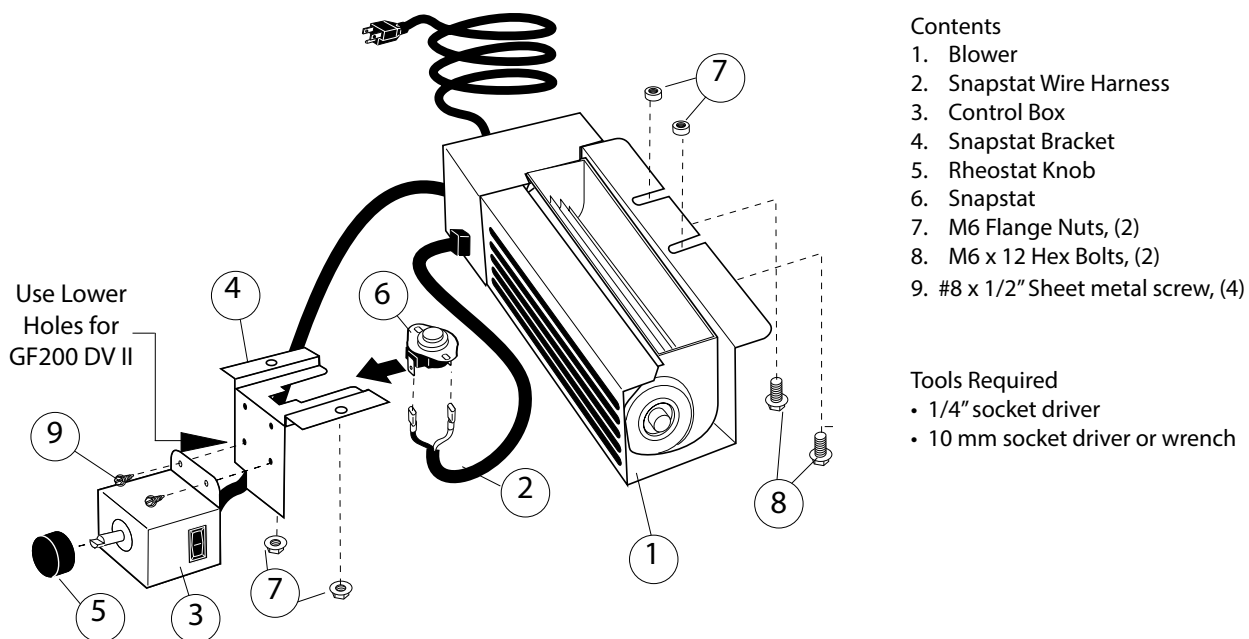

Figure 51. Blower Kit Components
1. Unpack and check the contents of the blower kit. There is a steel bracket that is not used with the GF 200 stove. Contact your dealer if any damage is evident or parts are missing. See fig. 51.
2. Attach the Control Box to the lower pair of holes on the Snapstat Bracket with two #8 x 1/2" sheet metal screws as shown in figs. 51 and 52.